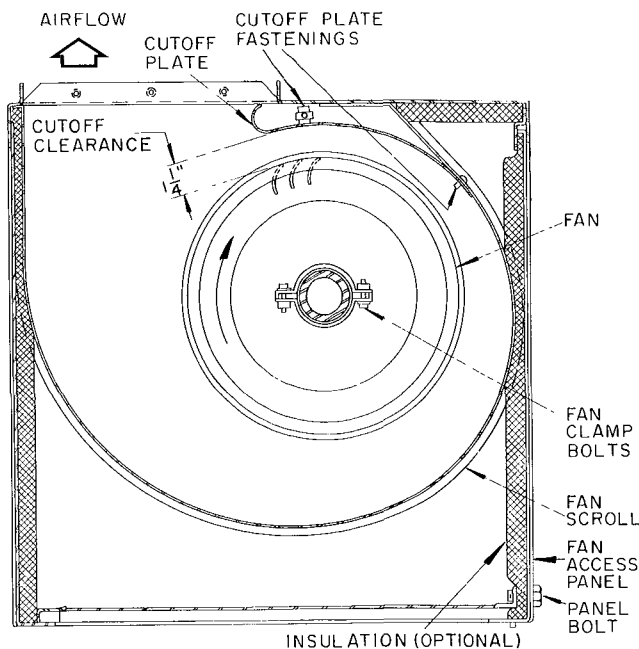

Fig. 6 – Fan Cross Section
1. Loosen two bolts in lower corners of panel. Pull bolts out as far as cotter pins will allow. Refer to Fig. 6.
3. Unscrew cutoff plate fastenings. Remove cutoff plate from fan scroll. Refer to Fig. 6.
5. Replace fan wheels in reverse order. Adjust cutoff plate for 1-1/4-inch clearance. Tighten securely. Refer to Fig. 6. Fan blades must be as shown.